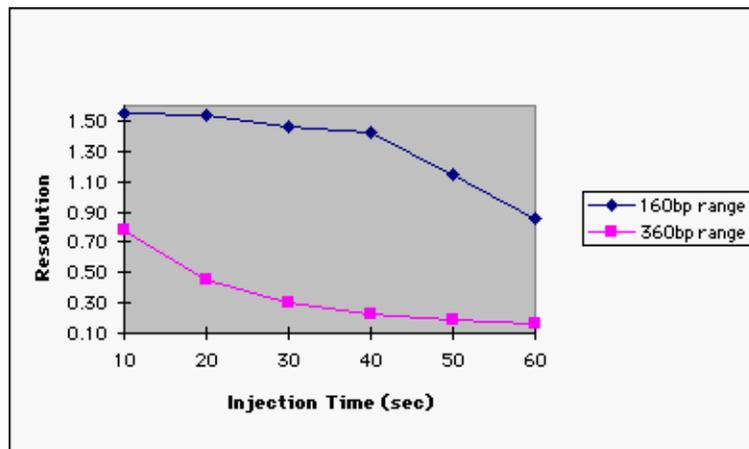

Figure 5-3 Resolution vs. injection time for different-sized fragments
- ◆ As the injection time increases, the resolution decreases because of increasing peak widths (Figure 5-3 on page 5-5). There is too much sample to move as a discrete, well-resolved band.